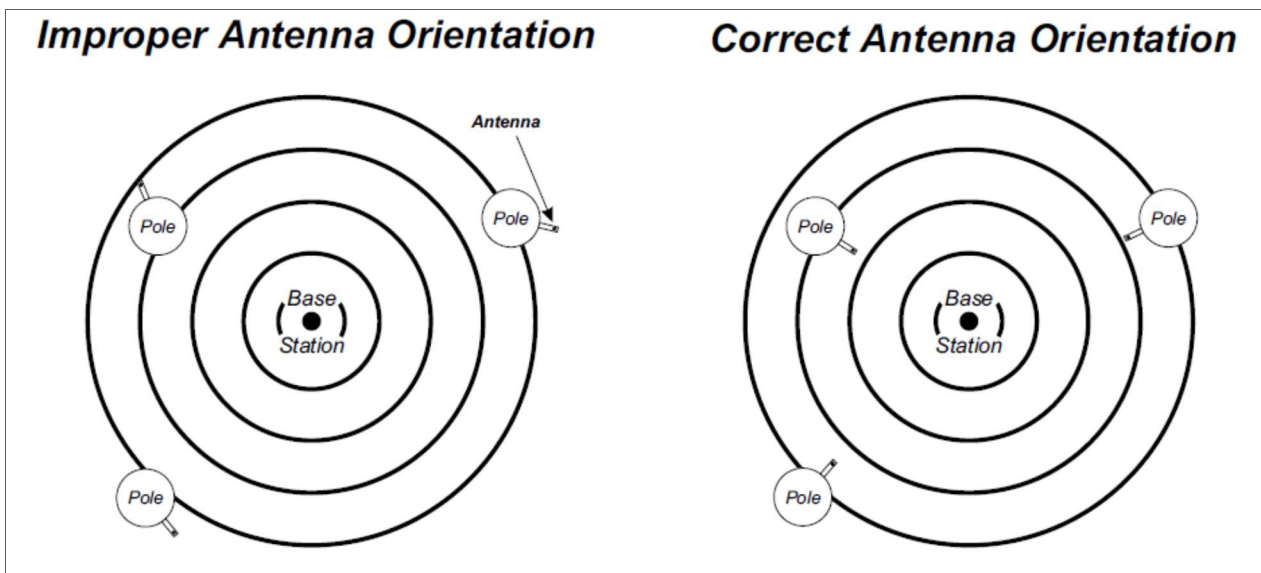

Figure 4 - Antenna mounting orientation
1. The antenna bracket should be positioned as high on the utility pole as is possible. However, under no circumstances should the top of the antenna be any closer than 1 meter from the base of the siren speaker cluster (see Fig 4)